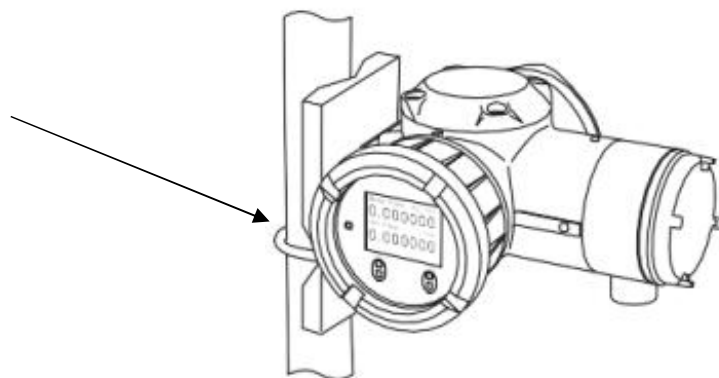

Fig. 7: Sealing of the separately mounted transmitter
- For separately mounted transmitter: sealing of the deposited transmitter to prevent unauthorised removal (see fig. 7)